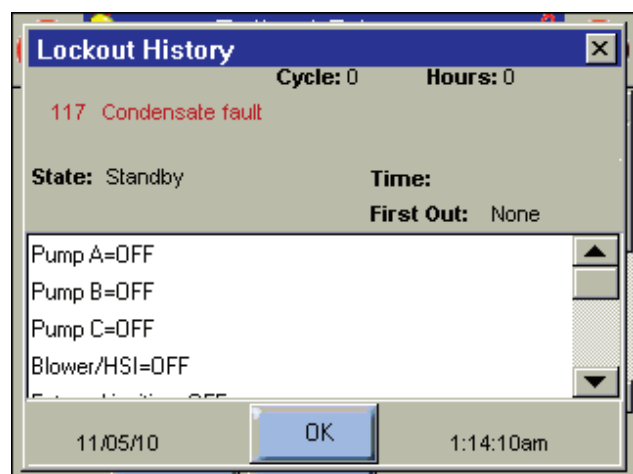

Fig. 129 – Lockout Detail Screen
- You can see more detailed information on the lockout by touching the entry on the screen. Figure 129 shows the kind of display the system will present.